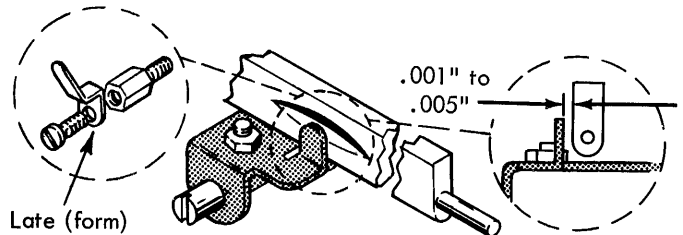

FIGURE 149. Torque Bar Backstop
4. Torque Bar Back Stop (long carriages only) - Adjust the back stop forward or back on its mounting stud so that there is a .001" to .005" clearance with the torque bar (Fig. 149).